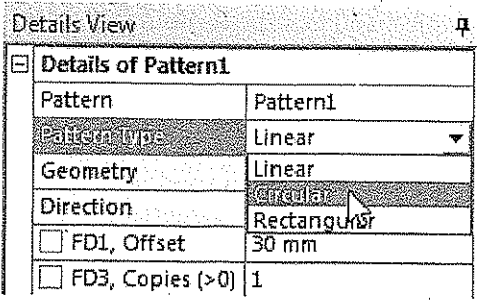

Figure 4-30 Selecting the *Circular* option from the *Pattern Type* drop-down list
2. Next, in the **Pattern Type** drop-down list, select the **Circular** option to specify the nature of the pattern as circular, as shown in Figure 4-30.